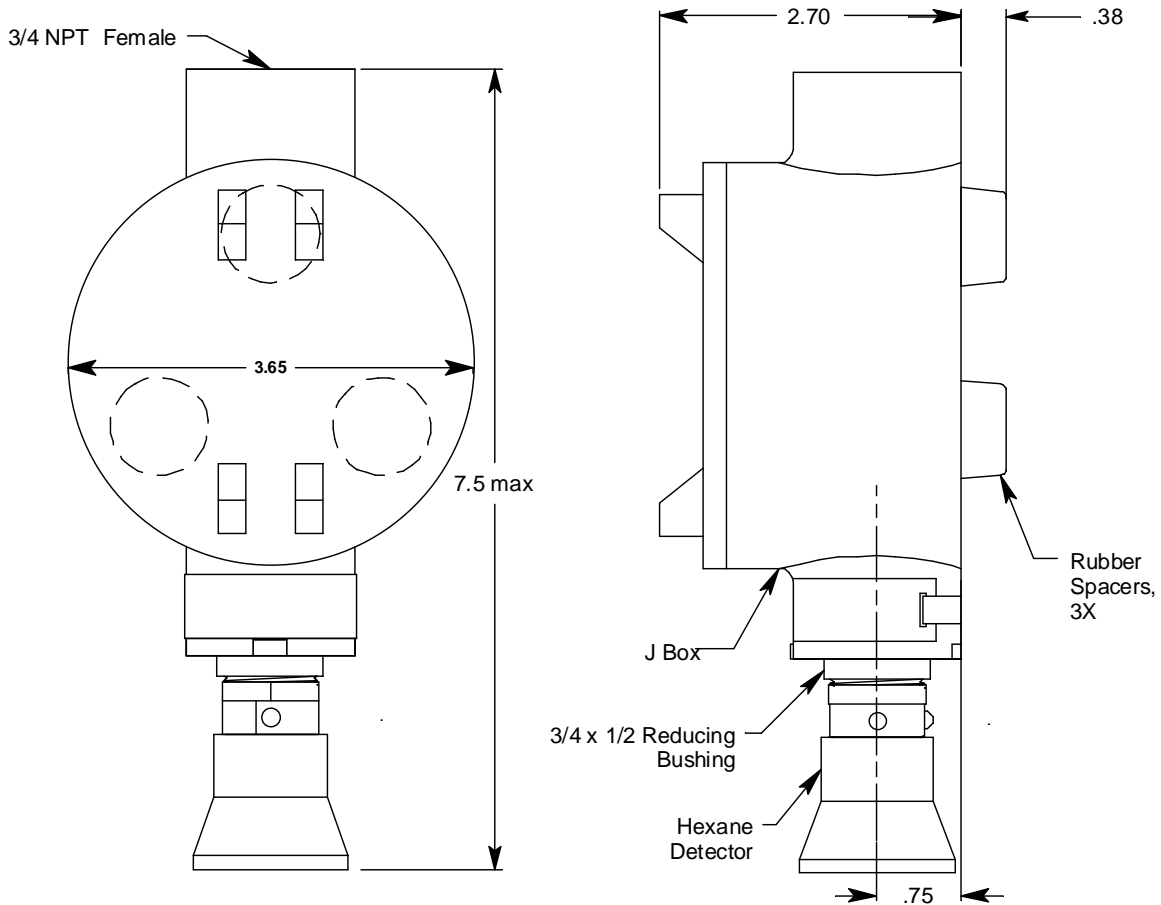

Figure 2: Mounting the PPM Hexane Transmitter
2. At the monitoring site you select, hang or mount the junction box with the detector facing down (see Figure 2).